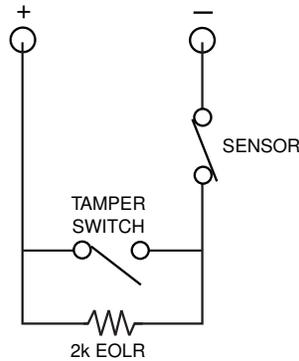

Figure 3-14: Wiring a Normally Closed Sensor Loop for Tamper Supervision
- **If you are using a normally closed sensor**, the tamper switch must be normally open. Refer to *Figure 3-14* for the wiring configuration.